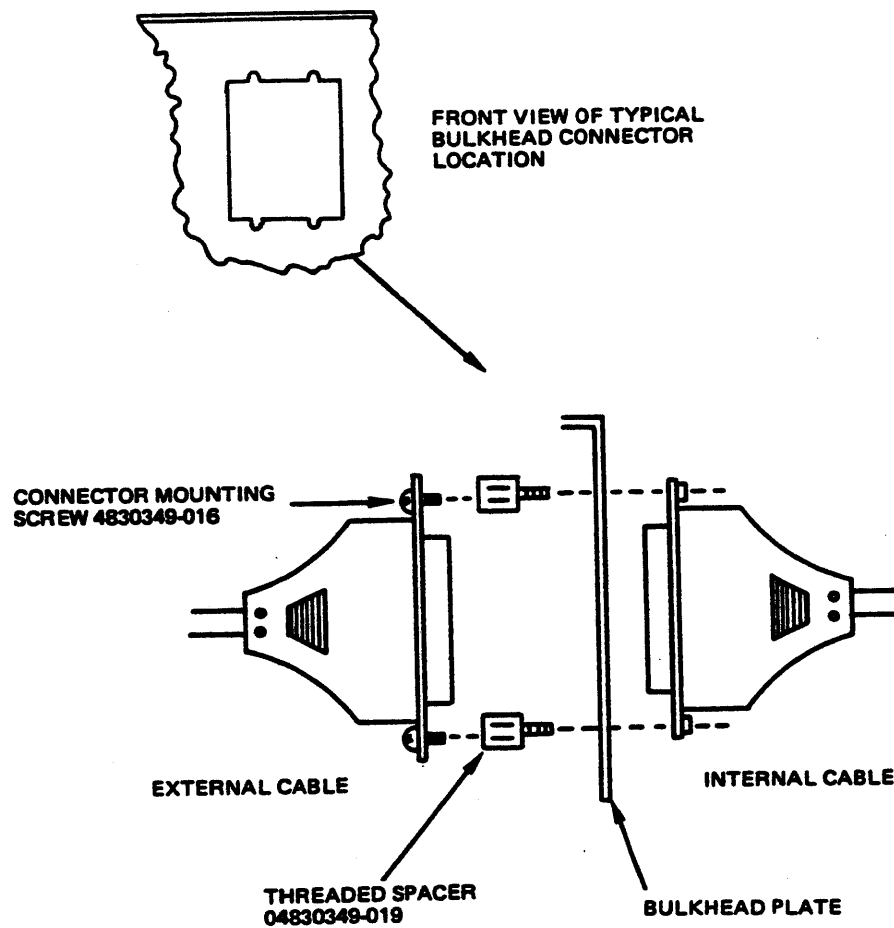

Figure 3-6 Cable Connector to Bulkhead Attachment
- b. Refer to Figure 3-6 for a typical connector to bulkhead attachment. Any mounting hardware that is not already installed is furnished as part of the bulkhead installation kit (60140740-006).